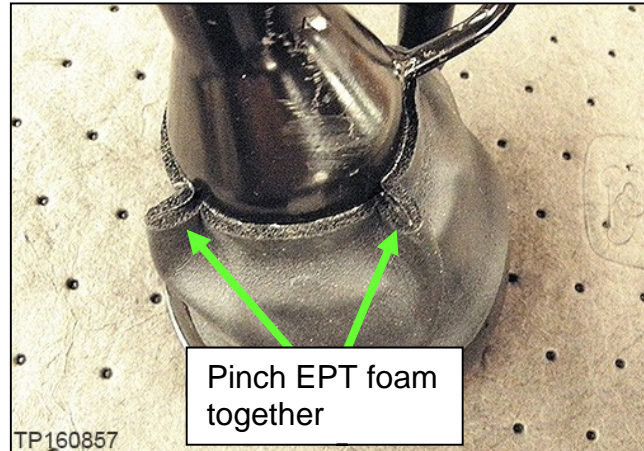

Figure 7
- f. Close the excessive EPT foam by pinching the excess together as shown in Figure 7, and then press the remaining EPT adhesive to the fuel filler tube.